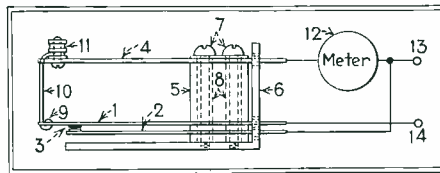

Fig. 1 Assembly of ammeter protector
Several possible solutions to the problem, using relays and thermo-electric mechanisms were investigated, but the arrangement to be described excels them all in simplicity and effectiveness. Figure 1 is a schematic of the final solution.
Referring to Fig. 1, the operation of the device may be described as follows: (1) and (2) are phosphor-bronze strips bearing tungsten contacts, (3). (4) is a heavy strip. The strips (1), (2) and (4) are isolated electrically from each other by a group of insulating wafers (5). The whole assembly is mounted on a strap-iron angle (6) by means of the round-head machine screws (7), the mounting screws being insulated from the strips by means of insulating sleeves (8). Through two small holes (9) in the strip (1) is fastened a piece of standard fuse wire of appropriate rating. This wire is pulled upward with sufficient tension to cause the contacts (3) to separate slightly, and is then fastened in this